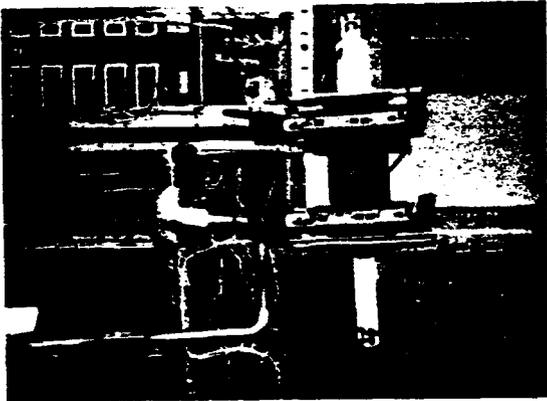

FIG. 16 TOOL POSITIONING
4.24 Position the R-4861 tool as required to freely accommodate the exposed cable or binder wiring (minimum 14 inch length) for the half-tapping operation. Adjusting can be made on the various clamps to fit the tool to the proper work position. See Fig. 16.